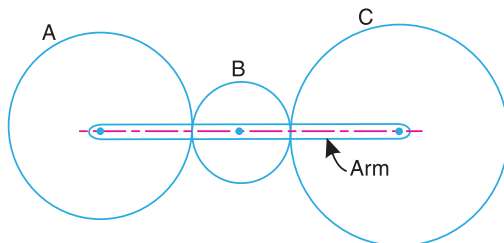

Fig. 13.33
4. In an epicyclic gear train, as shown in Fig. 13.33, the number of teeth on wheels A , B and C are 48, 24 and 50 respectively. If the arm rotates at 400 r.p.m., clockwise, find : 1. Speed of wheel C when A is fixed, and 2. Speed of wheel A when C is fixed. [Ans. 16 r.p.m. (clockwise) ; 16.67 (anticlockwise)]